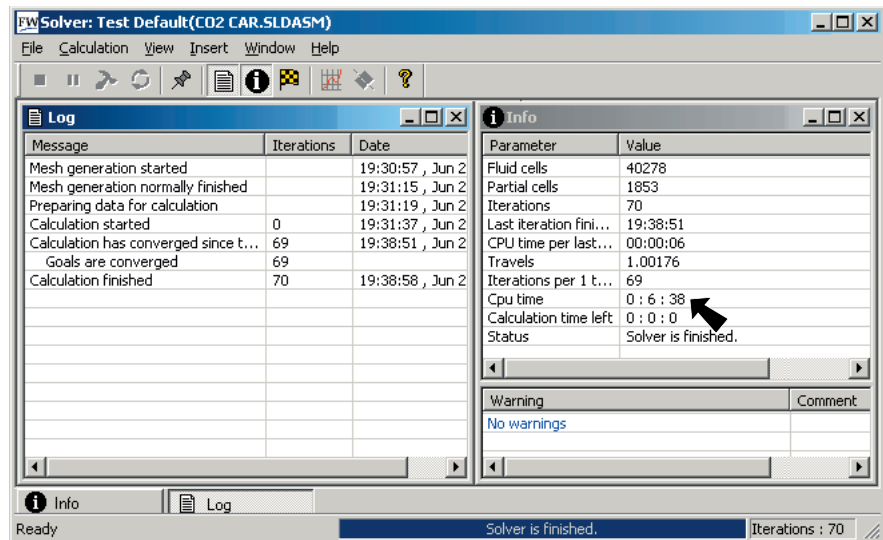

Fig. 17
Step 1. In the Solver dialog box you can view Calculation time left, **Fig. 17**. The CPU time runs around 6-8 minutes depending on the car design and the computer.